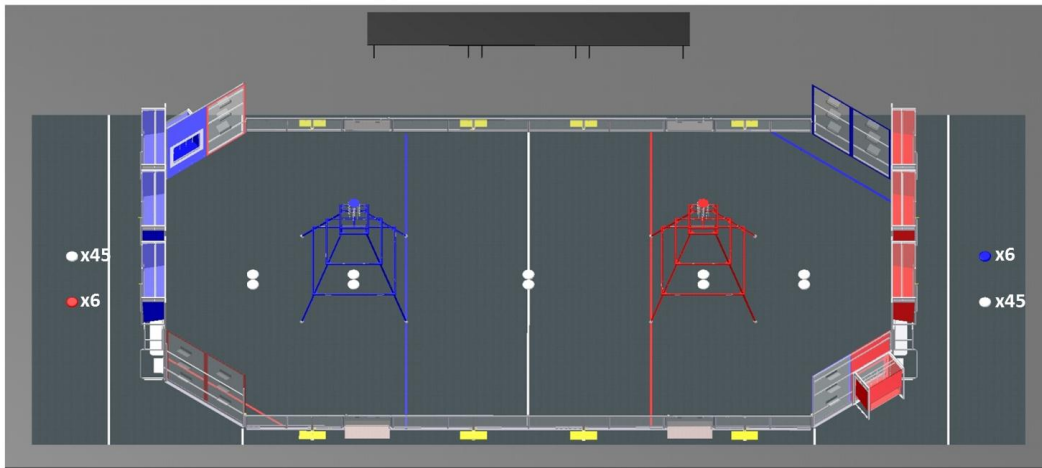

Figure 3-1: Starting Locations for DISCS
- A. No more than two (2) or three (3) White **DISCS** may be preloaded in each **ROBOT** by the **TEAM**, depending on the **ROBOT'S** starting position (see G06 for details).
- B. At least ten (10) White **DISCS** are staged on the **FIELD** approximately as illustrated in Figure 3-1.
- A. Two (2) DISCS are centered between the GUARDRAILS and 78 in. from the Blue ALLIANCE WALL to the center of the DISC.
- B. Two (2) DISCS are centered under the Blue PYRAMID.
- C. At least two (2) DISCS are placed centrally between the GUARDRAILS and along the field CENTER LINE.
- Any DISCS not preloaded in ROBOTS per part A above (e.g. the ROBOT is preloaded with fewer than three (3) DISCS, the ROBOT isn't in the MATCH, etc.) are placed adjacent to the DISCS on the CENTER LINE. The non-preloaded DISCS are added to each side of the existing pair such that the group of DISCS on the CENTER LINE is centered. If there is an odd number of DISCS staged on the CENTER LINE, the extra DISC will be placed on the scoring table side of the group.
- D. Two (2) DISCS are centered under the Red PYRAMID.
- E. Two (2) DISCS are centered between the GUARDRAILS and 78 in. from the Red ALLIANCE WALL to the center of the DISC.